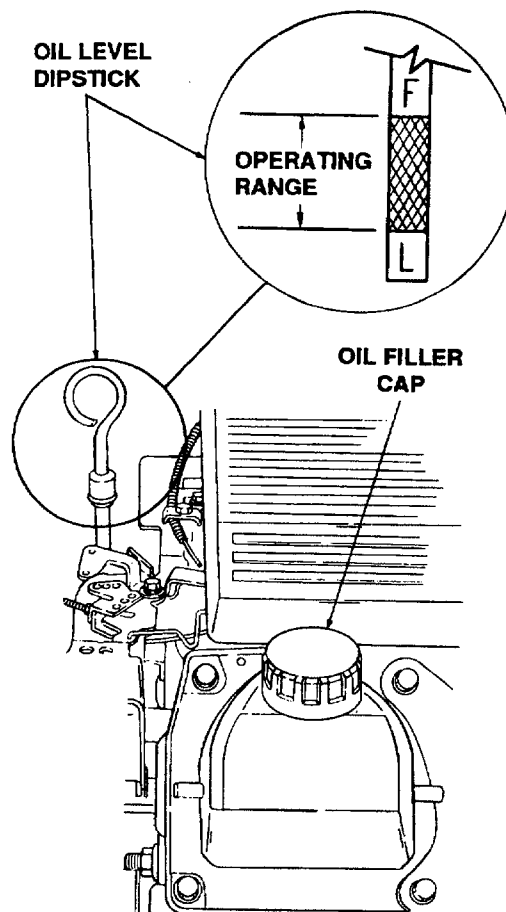

Figure 19
level. Close monitoring of the oil level during the first 10 hours of operation of the engine is especially important. Before checking the oil level, clean the area around the oil level dipstick to prevent debris from entering the crankcase. Always keep the oil level between the "FULL" and the "LOW" marks on the dipstick. (See Figure 19.) When checking the oil level, engine must be cold, the dipstick must be withdrawn and wiped clean, then inserted all the way and withdrawn for a true reading.
3. Remove the oil filler cap from left valve cover and SLOWLY pour in oil. Fill the crankcase until the oil level reaches the "FULL" mark on the dipstick. (Refer to Figure 19.)
3. Remove the oil filler cap from left valve cover and SLOWLY pour in oil. The oil capacity is approximately 4 pints. Fill the crankcase until the oil level reaches the "FULL" mark on the dipstick. (Refer to Figure 19.)